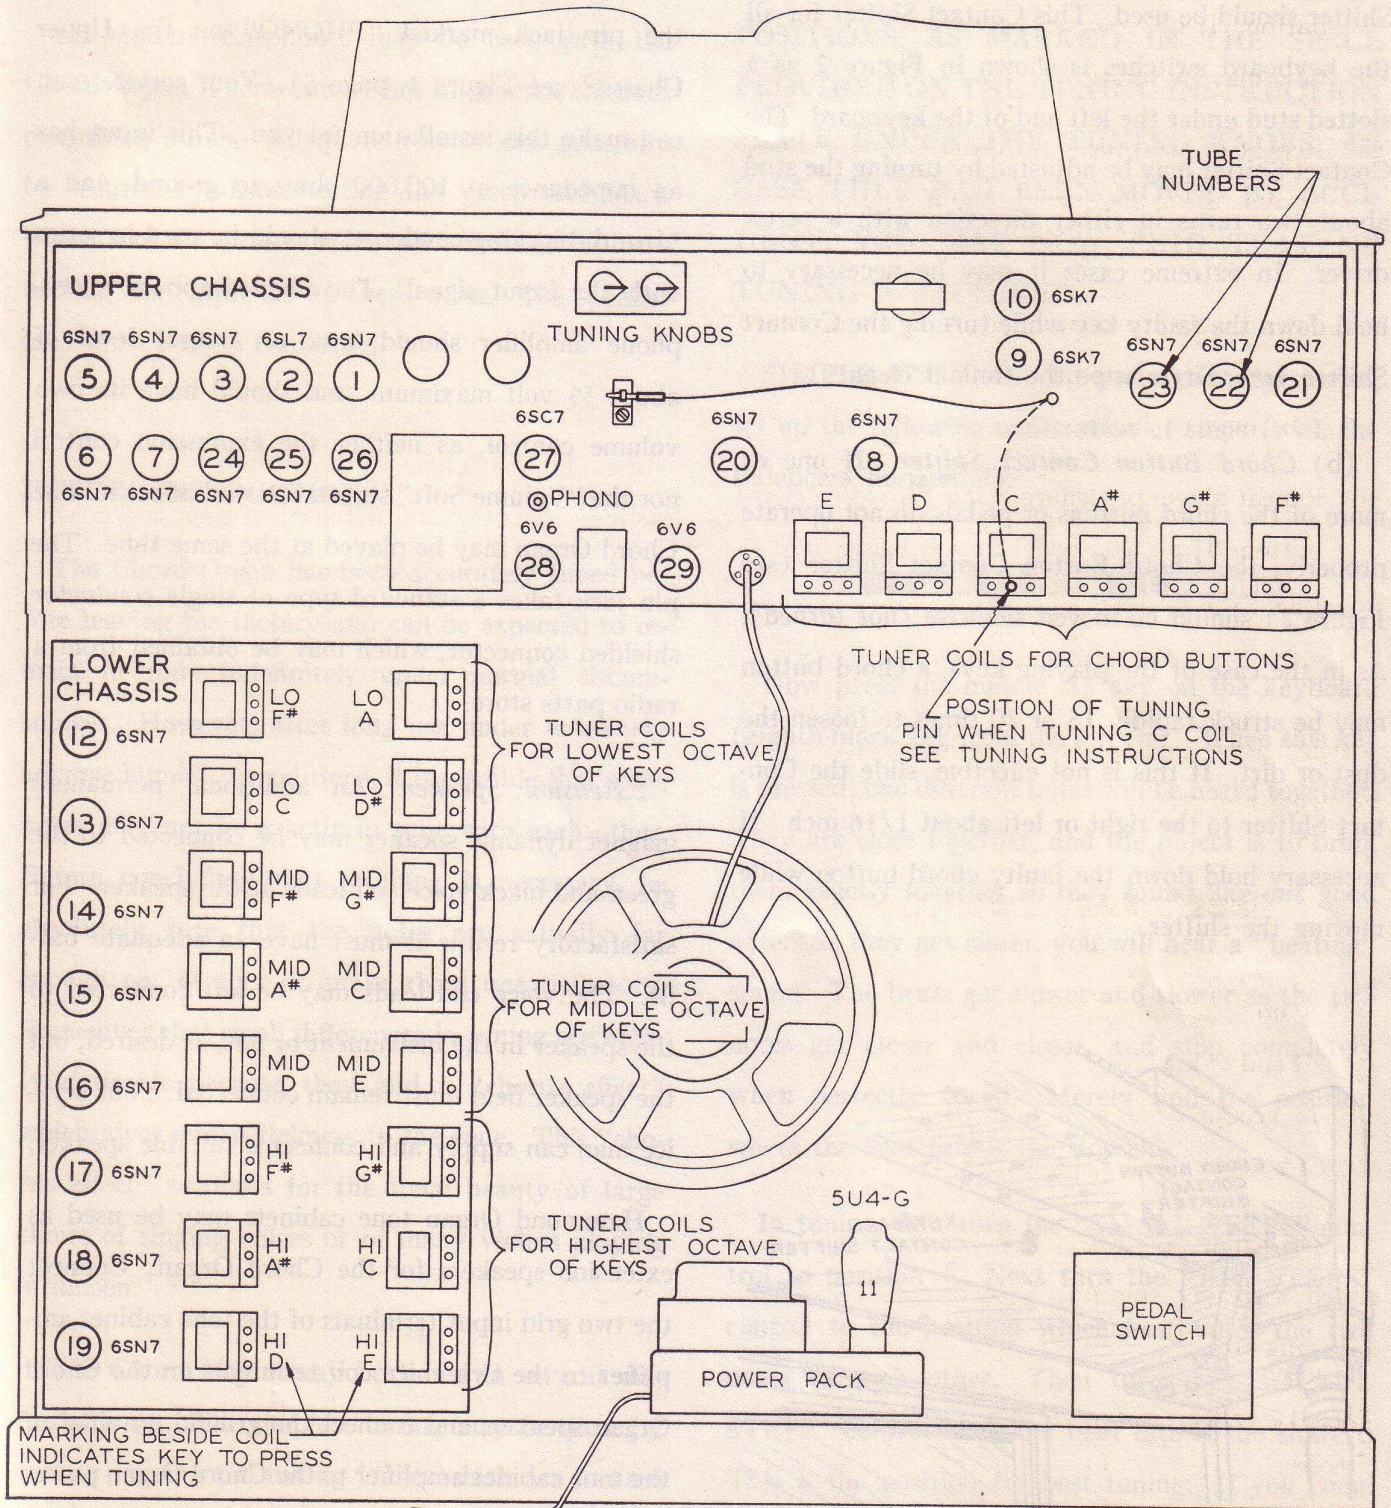
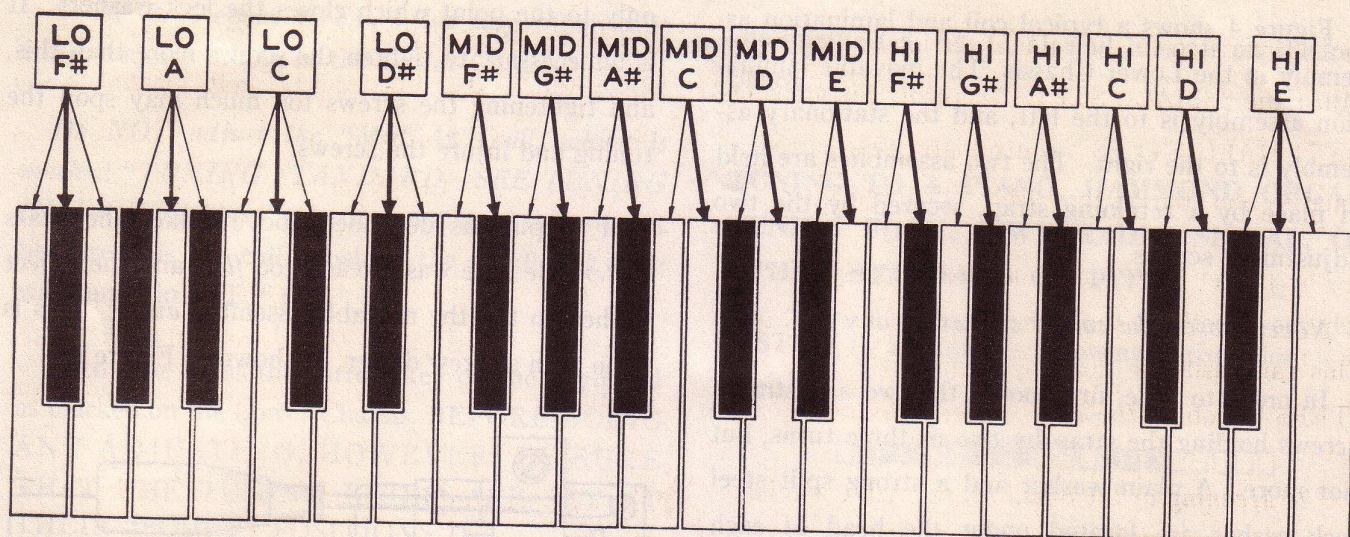

FIGURE 1
FIGURE 3
The most likely cause for service in the Chord Organ is a defective or worn-out tube. All tubes are standard radio types obtainable at any radio store, and all tubes are easy to change as they are readily accessible from the back of the console. Observe that in each case the type of tube (6SN7, 6V6, etc.) is stamped into the metal chassis next to the tube, as shown in Fig. 1. It is unnecessary that you understand electricity or how the organ works in order to replace a defective tube.
Start by pulling out tube No. 12 (see Fig. 1, where the tube is shown as ⑫ at the top of the lower chassis). This will give you a "spare" 6SN7 tube with which to test the other 6SN7 tubes. (Taking out this tube will make the bottom six keys on the keyboard dead when using the Organ stops only; of course, if the Organ tones of any of these six keys were dead before you removed this tube, No. 12 would be the defective tube.)
*Radio, Phonograph, or Microphone.* A radio, phonograph, or microphone amplifier will play through the Chord Organ speaker if connected to the pin jack marked "PHONO" on the Upper Chassis (see Figure 1, page 5). Your service man can make this installation for you. This input has an impedance of 100,000 ohms to ground, and a 1/4 mfd. blocking condenser should be used in series with the input signal. The phonograph or microphone amplifier should have an output level of about 1/2 volt maximum, and should have its own volume control, as neither the expression control nor the "Volume Soft" stop tablet will affect it. The Chord Organ may be played at the same time. The pin jack takes a standard type of single conductor shielded connector, which may be obtained from a radio parts store.
The Chord Organ may be tuned in several different ways. The simplest tuning may be done by merely turning the tuning knobs which are located inside at the back on the main chassis (see Figure 1, page 5). The owner can make such adjustments
The various notes of the keyboard may be individually tuned by adjusting the coils located in the Lower Chassis as shown in Fig. 1 on page 5. As here shown, each coil is marked with the corresponding keyboard note with which it should be tuned. It is to be observed that there are many more notes on the keyboard than there are coils. Each coil simultaneously tunes at least two adjacent notes on the keyboard and some coils tune three adjacent notes. Fig. 3 shows which notes on the keyboard are tuned by the various coils in the Lower Chassis. For example, the three lowest notes on the keyboard (Low F, Low F#, and Low G) are all tuned by the coil marked "LO F#." Thus, if there is any particular note (or group of adjacent notes) on the keyboard which seem to be out of tune, you can determine which coil to tune by using Fig. 3. Steps 1, 2, 3, and 4 below explain how to tune the keyboard notes.
coils are marked with corresponding keyboard notes. The upper left coil on the Lower Chassis is marked "LO F#," with letters stamped in the chassis. This is also shown in Figure 1 on page 5, which shows the positions of all the coils.
STEP 6. Press the middle F# key on the keyboard and wedge it down with a pencil at the back of the key so that the note will continue to sound. Hold the expression control in a position to secure adequate volume (for instance, by placing a chair against it). Now remove the tuning pin from its clip on the Upper Chassis and insert it into the center hole on the bakelite panel of the coil marked F# in the Upper Chassis (see Figure 1 on page 5). The added tone which is heard is one of those used for the Chord Buttons. If the "beats" are very slow, this coil does not require tuning adjustment.